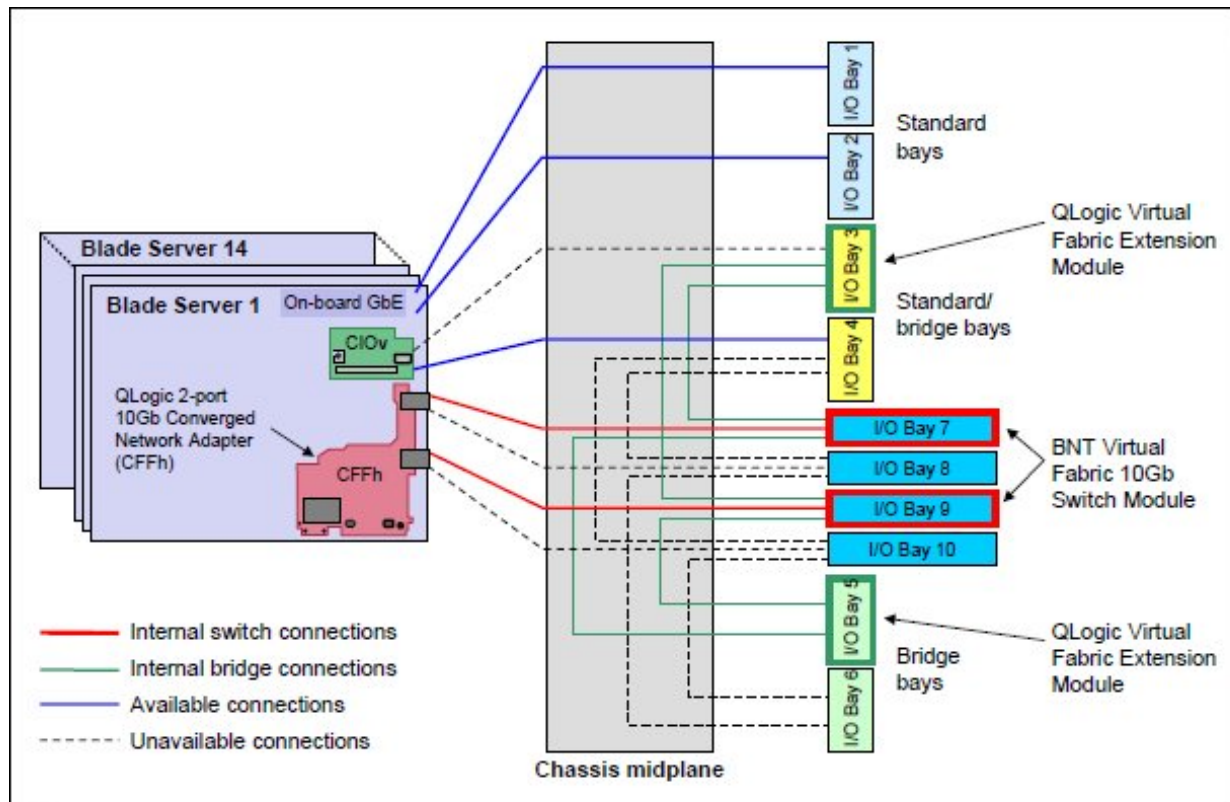
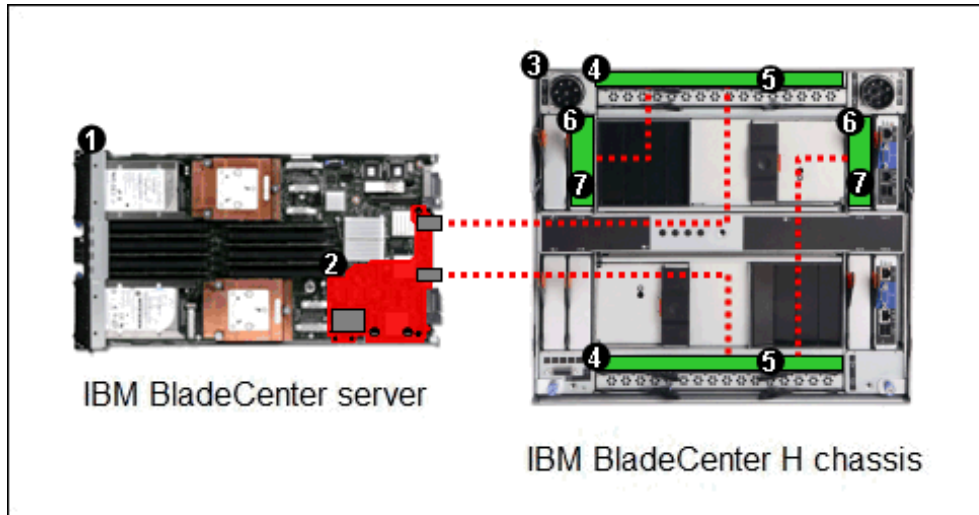

Figure 2. BladeCenter H internal connections with the QLogic Virtual Fabric Extension Module installed
Figure 3. Converged networking solution with two QLogic Virtual Fabric Extension Modules and two Virtual Fabric 10 Gb Switch Modules
Figure 2 shows the I/O topology internal to the BladeCenter H chassis. Bridge bays 3 and 5 both have internal connections to the high speed I/O bays 7 and 9.
As shown in Figure 2, the switch in bay 7 is connected to the extension module in bay 3, and the switch in bay 9 is connected to the extension module in bay 5. This configuration results in 40 Gbps links between the switch and connected extension module. Four external ports of each switch module (8 total) are disabled (ports 1-4 in bay 7 and ports 7-10 in bay 9) and those circuits are rerouted to the extension modules. This configuration is best for redundancy and bandwidth. Total available external ports: 12 Ethernet, 12 Fibre Channel.
In this configuration, both the switch in bay 7 and the switch in bay 9 are connected to the extension module in bay 5. See Figure 2 for the connections. This configuration results in 20 Gbps links between each switch and the extension module. Two external ports of each switch module (4 total) are disabled (ports 1 and 2 in bay 7, and ports 9 and 10 in bay 9) and those circuits are rerouted to the extension module. Although the extension module is no longer redundant, it still offers the advantages of two paths from the adapter to the switch and extension module. Unlike configuration 1, this configuration allows the use of the CIOv slot in the blade servers (for example, for SAS connectivity) to connect to I/O modules installed in bays 3 and 4 of the chassis. Total available external ports: 16 Ethernet, 6 Fibre Channel.
As shown in Figure 3 (see also Figure 2), the switch in bay 7 is connected to the extension module in bay 3, and the switch in bay 9 is connected to the extension module in bay 5. This configuration results in 40 Gbps links between the switch and connected extension module. Four external ports of each switch module are disabled (ports 1-4 in bay 7 and ports 7-10 in bay 9) and those circuits are rerouted to the extension modules.
* While Virtual Fabric 10 Gb Switch Module has ten external 10 Gb ports, the configuration described above allows use of only up to six external ports on each switch because four 10 Gb external ports are remapped to four internal connections to each QLogic Virtual Fabric Expansion Module, as shown on Figure 3.
In this configuration, two switches are installed in bay 7 and bay 9 and both are connected to the extension module in bay 5. See Figure 2 and Figure 3 for the connections. This configuration results in 20 Gbps links between each switch and the extension module. Two external ports of each switch module are disabled (ports 1 and 2 in bay 7, and ports 9 and 10 in bay 9) and those circuits are rerouted to the extension module. The components used in this configuration are listed in Table 8.